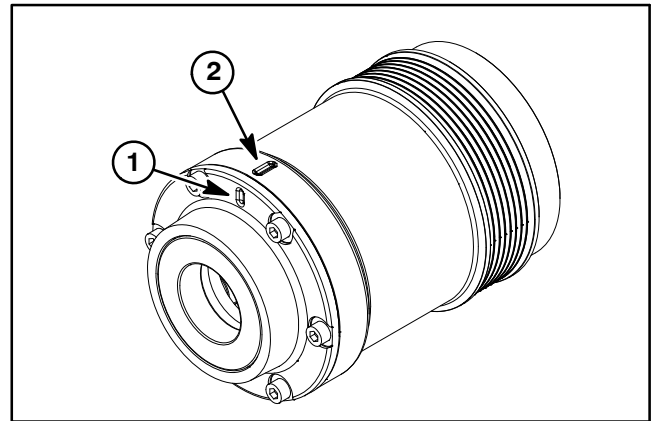
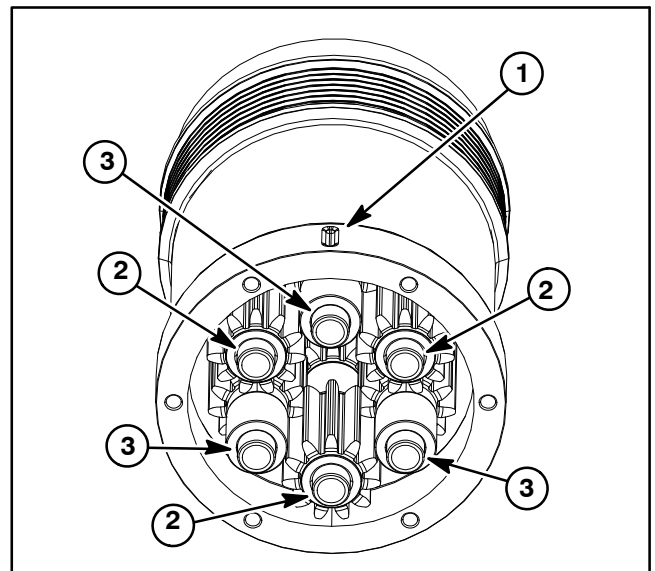

Figure 31
Figure 33
2. Remove six (6) socket head screws that secure cover to housing. Note alignment of index marks on housing and cover for assembly purposes (Fig. 31).
4. Lift housing from differential assembly leaving internal components positioned on cover. For assembly purposes, note that index mark on housing is aligned with a gear pin that has one (1) gear (Fig. 33).
4. Position housing onto assembly making sure that gear pin with one (1) gear is positioned next to index mark on housing (Fig. 33). Also, align index marks on housing and cover during assembly (Fig. 31).
6. Secure cover to housing with six (6) socket head screws. Torque screws from **99 to 121 in-lb (11.2 to 13.6 N-m)**.